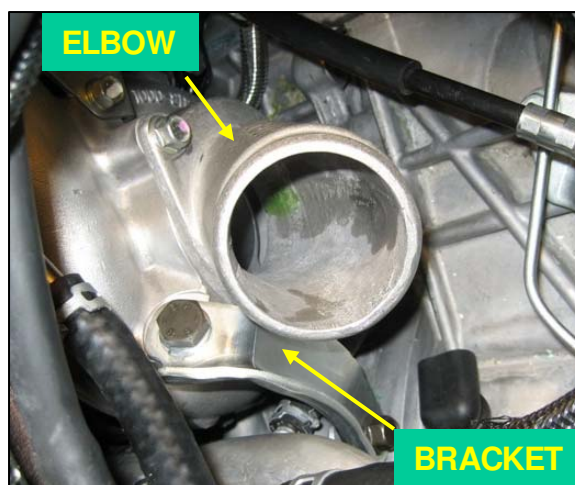

Fig. 12
13. From the driver's side, find the steel bracket that braces the compressor housing to the engine block. Remove this bracket, noting orientation. This part will be reused (2 bolts, 17mm socket/wrench). See *Fig. 12*.
14. Remove the cast aluminum inlet elbow from the compressor housing, along with its gasket. The bolts will be reused but the elbow and gasket will not (3 bolts, 12mm socket). See *Fig. 12*.